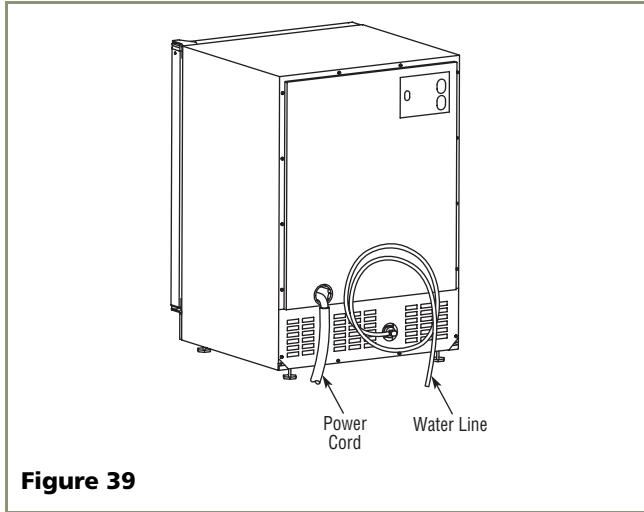

Figure 39
- Connect sufficient tubing to the unit so that tubing may be looped, allowing the unit to be removed for cleaning and servicing (see **Figure 39**). However, make certain that the tubing is not pinched or damaged during installation.
- Carefully bend the water supply line into position and connect the line to the solenoid valve (see **Figure 39**). Avoid kinking the water supply line.
- For recessed installations, allow extra water supply line length to provide slack for easy removal from the recessed area (see **Figure 39**). This will also safeguard against kinking the line.